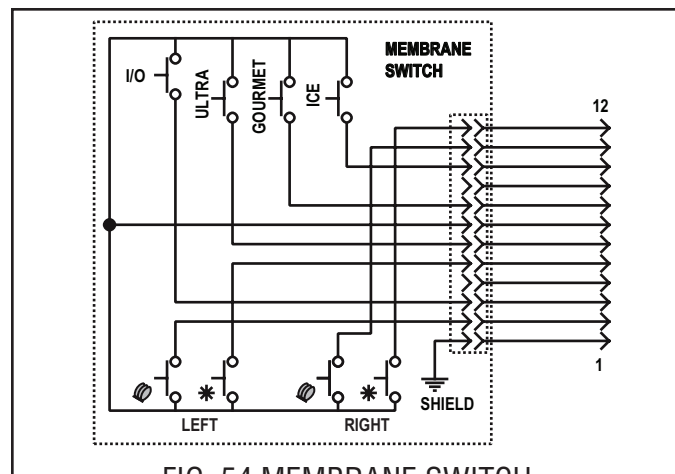

FIG. 54 MEMBRANE SWITCH
7. Refer to Fig. 54 and connect the ribbon cable to the short harness from the Control Board.